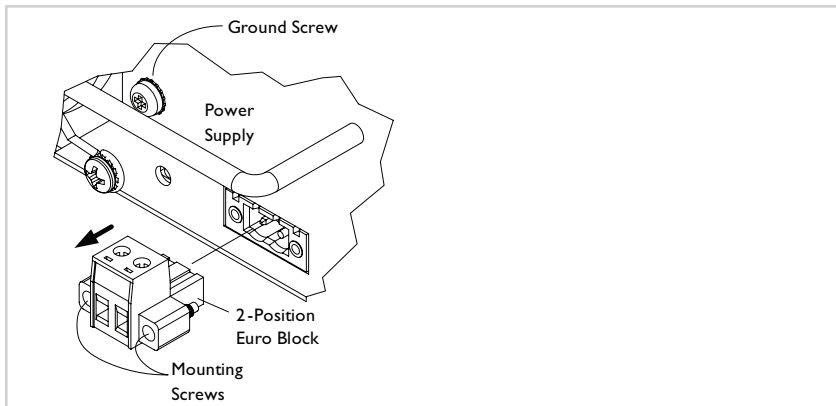

Figure 2: Removing the Euro Block from Power Module
2. Loosen the “2” mounting screws, attaching the Euro Block to the power module and pull it from the power module. See Figure 2.